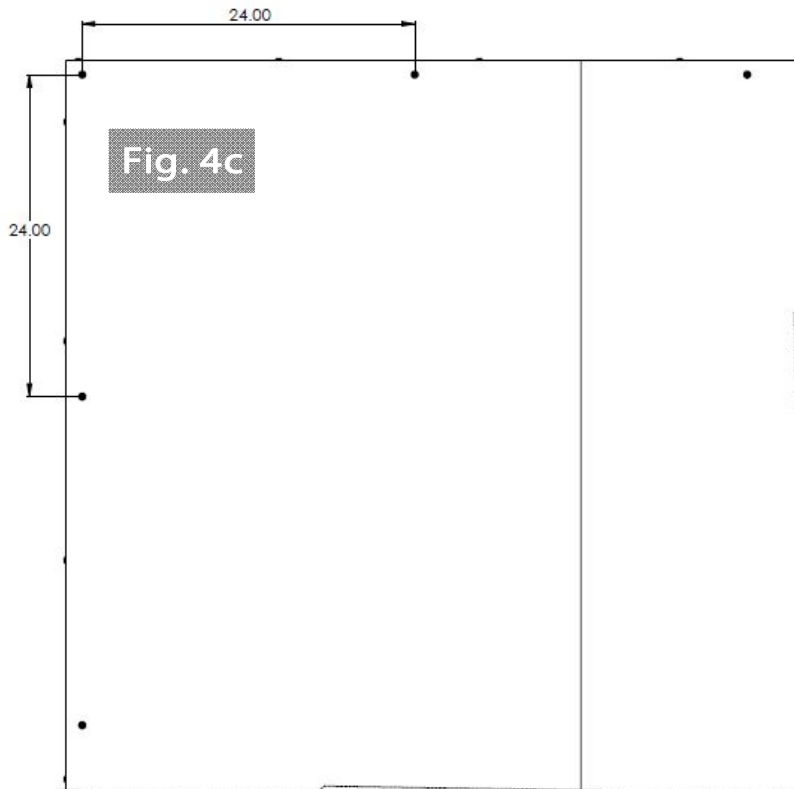

Fig. 4c
- Space fasteners 24 Inches apart minimum (fig. 4c)